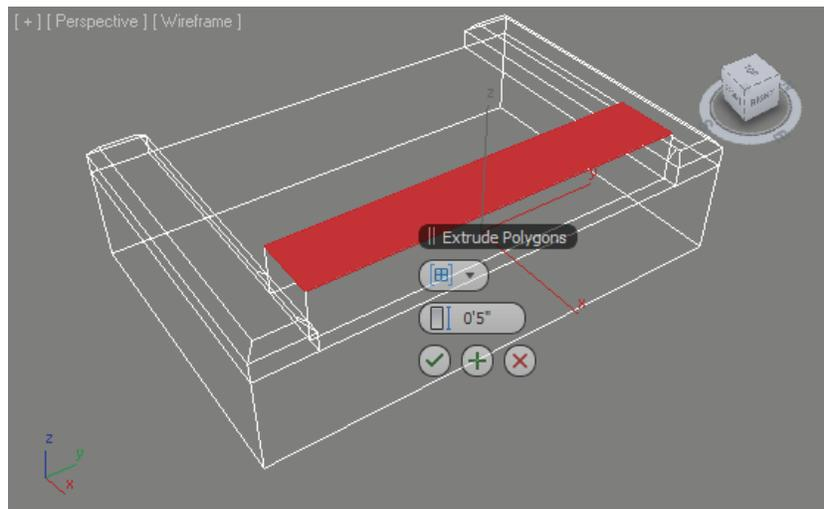

Figure 3–58
23. In the Polygons panel, press and hold <Shift> and click  (Bevel) to access the Bevel heads-up display. Bevel up the back of the chair, as shown in Figure 3–59. Be careful not to bevel so much that the edges overlap. Click .